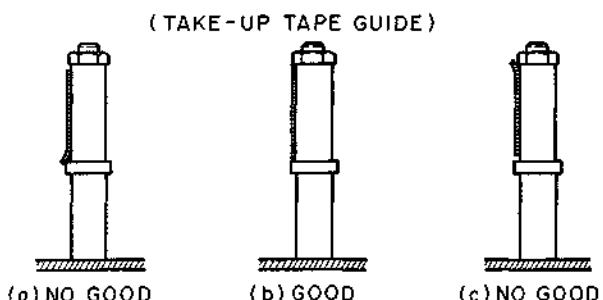

Fig. 5-4
- 4) Slightly turn the screw ④ until the tape edge barely touches the lower part of the Take-up Tape Guide without any curl as shown in Fig. 5-4.